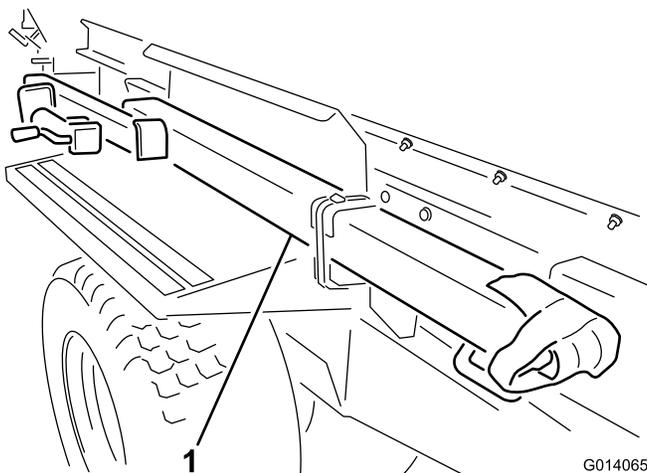

Figure 3
3. Remove the hitch from the shipping position by cutting both straps securing the hitch to the fender (Figure 3). Remove both mounting brackets from the fender and discard.